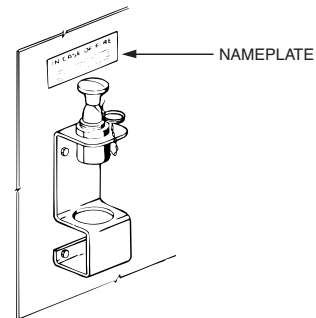

FIGURE 22
5. Affix the appropriate operating nameplate adjacent to the manual actuator so that it is visible to attending personnel. See Figure 22.
6. Make certain ring pin is inserted through the RED actuator button to ensure safe cartridge installation. See Figure 22.